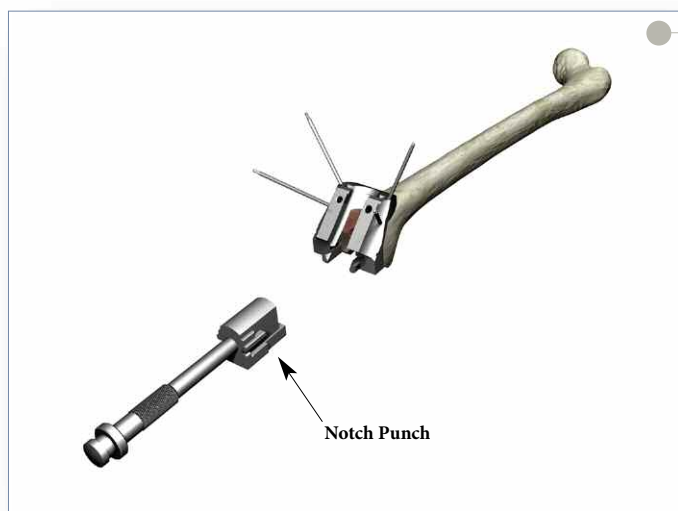

Figure 31
- ▶ Guide the Notch Punch into the tracks on the distal face of the Notch Block (Figure 31). The rails on the sides of the cutting edge fit into the tracks on the inside walls of the block.